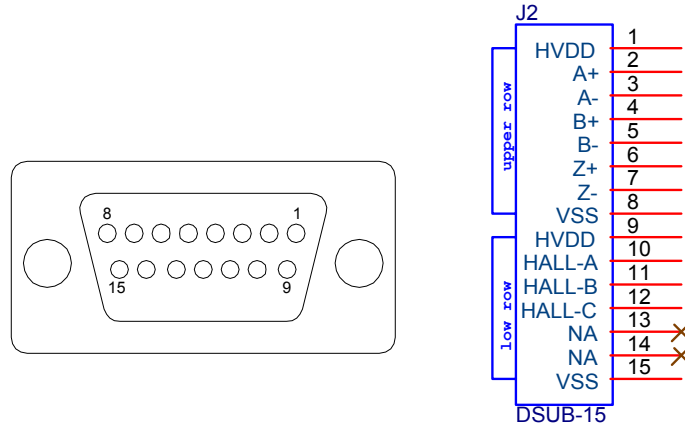

Figure 1. Encoder Interface Connector, J2
- Assemble 15-pin male D-Sub connector, referring to Figure1.